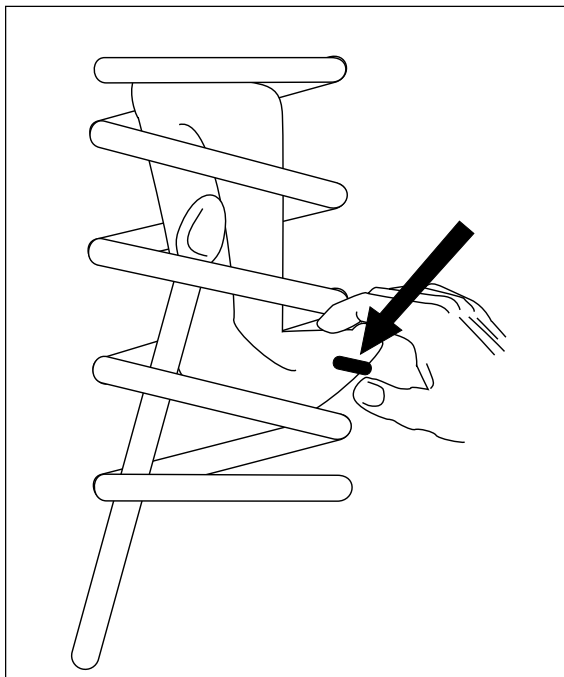

Figure 2
5. Insert the formed cylinder into the lower coil spring seat opening with the barbed stem to the bottom (Figure 2).